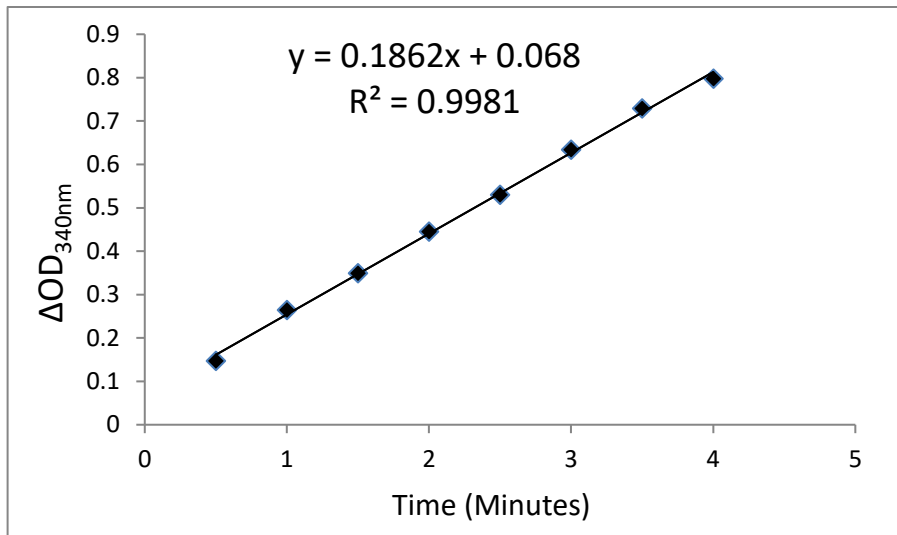

Figure 2 The change in absorbance ΔOD_{340nm} of diluted GST positive control during the time at 340nm.
1. Determine the change in absorbance $\Delta OD_{340nm}/min$ by plotting the absorbance value at ΔOD_{340nm} as a function of reaction time to obtain the slope of the linear portion of the curve. As shown in Figure 2.